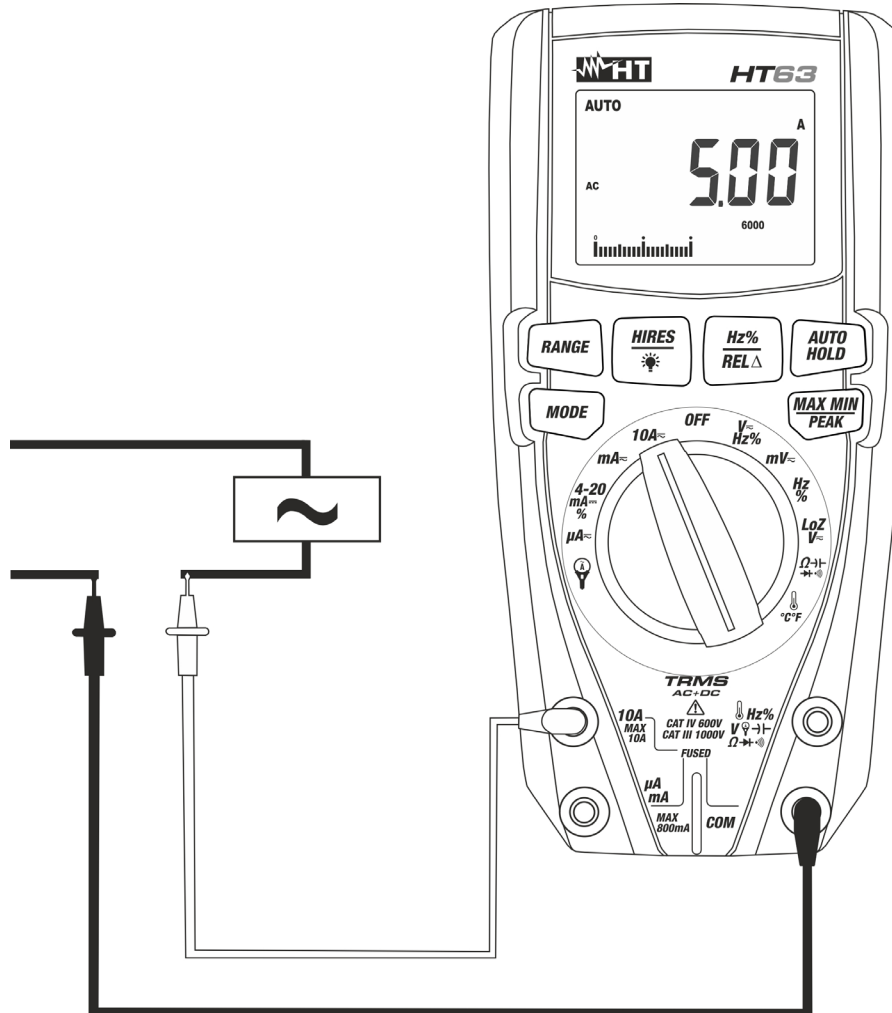

Fig. 11: Use of the instrument for AC current measurement
5. Connect the red lead and the black lead in series to the circuit whose current you want to measure (see Fig. 11).